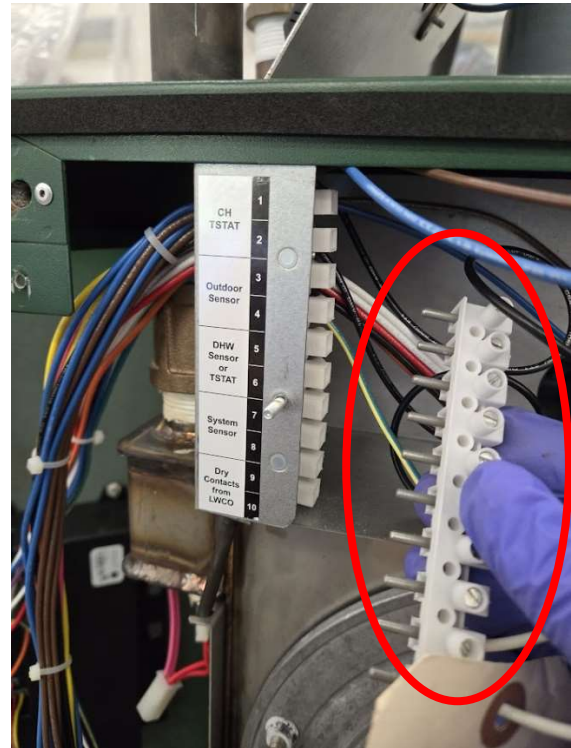

Figure 8: Disconnected Terminal Block Plug
5. Remove the control harness terminal block plug (left side) as shown in Figure 8.